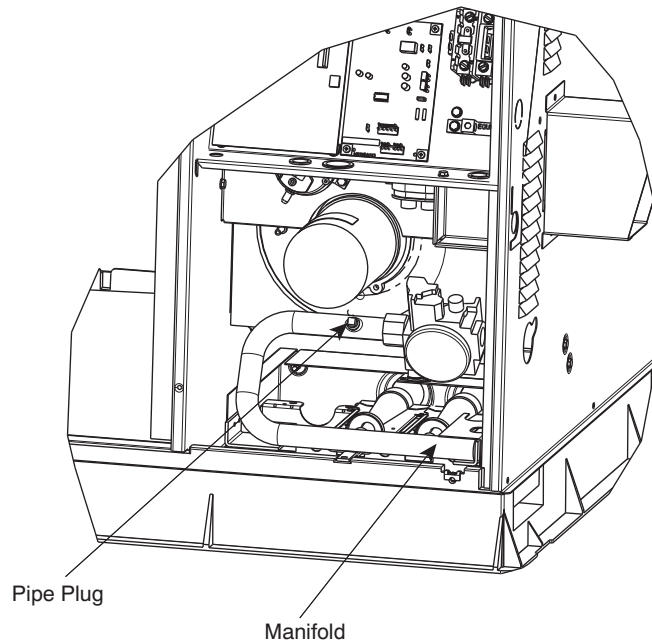

Fig. 13 - Single-Stage Burner Assembly
23. Reconnect the blue wires removed in item 5 to the rollout switch and reinstall the rollout switch.
25. Reconnect the gray and brown wires removed in item 5 to the gas valve.
28. Remove the 1/8 in. pipe plug on the gas manifold and connect a pressure manometer (see Fig. 13).
32. Turn off unit, remove pressure manometer and replace the 1/8 in. pipe fitting on the gas manifold (see Fig. 13).